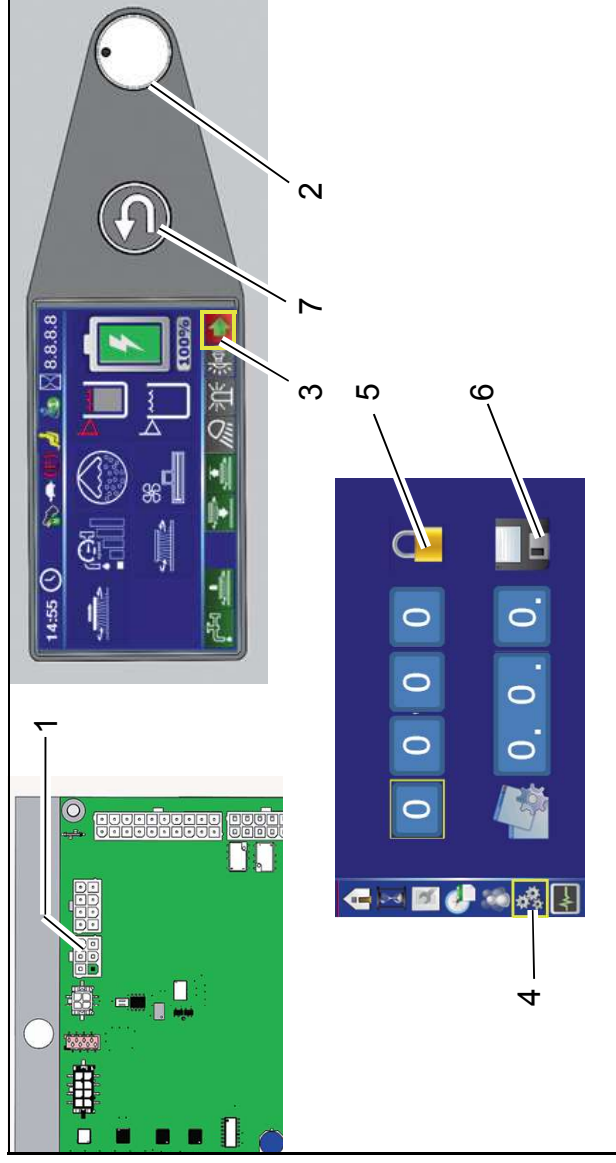

Fig. 7
Plug diagnosis plug into slot X20 of controller A1 (Fig. 7/1).
2. Select the arrow soft key (Fig. 7/3) on the control panel using the turn-push knob (Fig. 7/2) and press to access the sub-menu.
3. Select the configuration menu in the sub-menu (Fig. 7/4).
4. Enter the 4-digit code in the configuration menu at the top (Fig. 7/5):
5. In the configuration menu at the bottom (Fig. 7/6), set the value of the option and save by pressing the turn-push knob. After confirming the last digit, OK? appears. Press the turn-push knob again to save the value. Saved value is displayed in green.
- If the value is not to be saved, exit menu using the return key (Fig. 7/7).